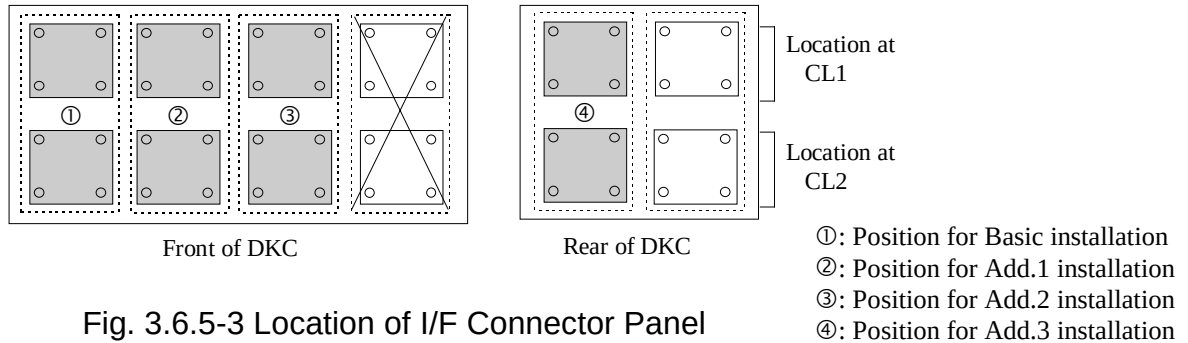

Fig. 3.6.5-3 Location of I/F Connector Panel
- Remove the dummy plate referring to Fig. 3.6.5-5.